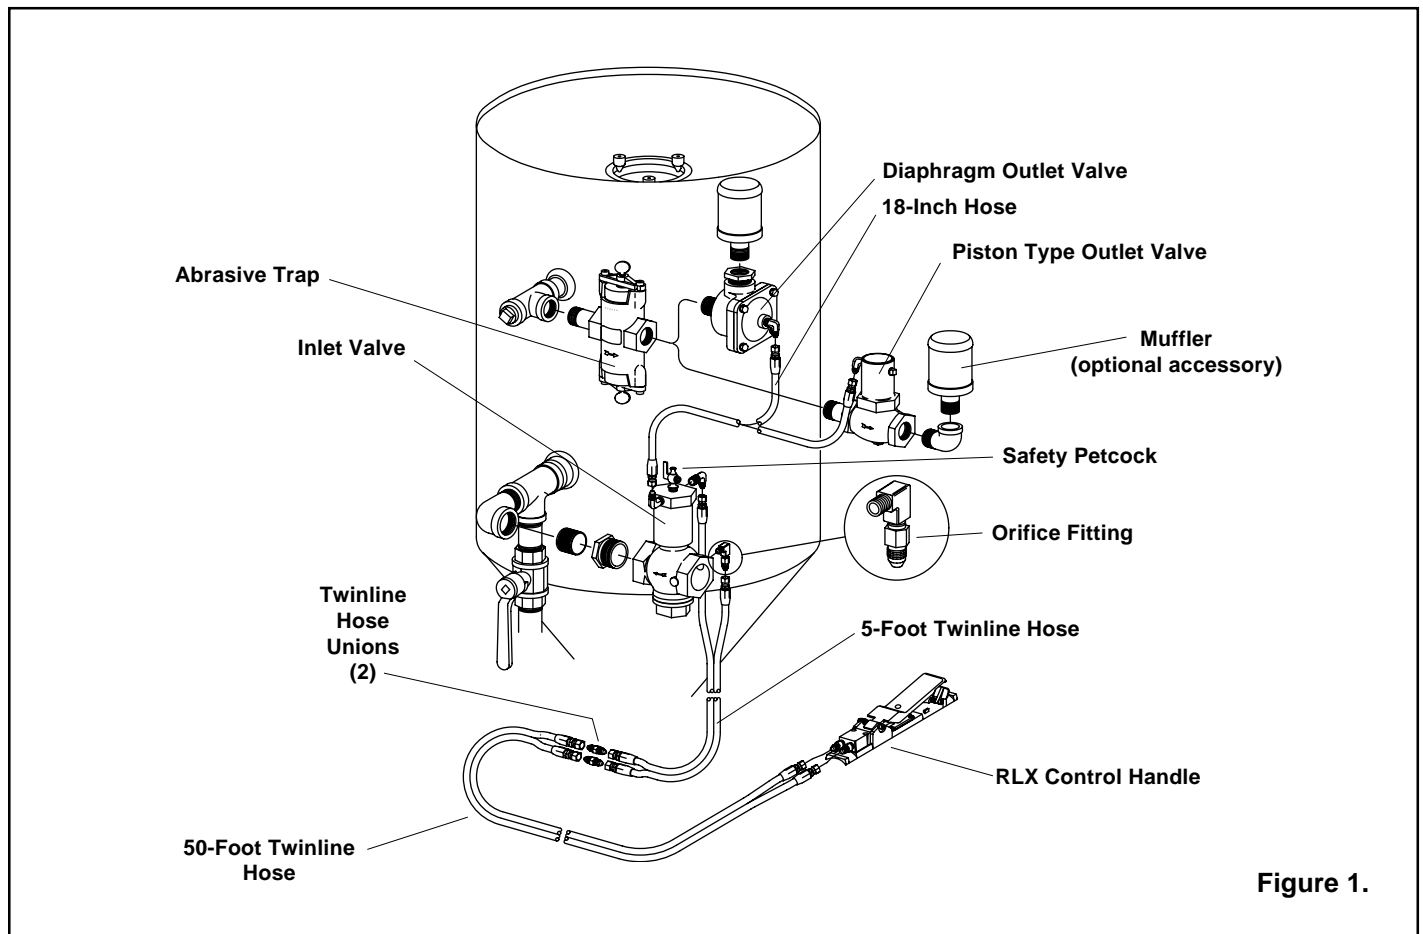

Figure 1.
**1.3.2** The components of a standard system are shown in Figure 1. They include the inlet valve, piston or diaphragm outlet valve (the piston valve is used in most applications, the diaphragm valve is recommended for use with fine mesh, or aggressive media), RLX Control Handle, 50-ft. long and 5-ft. long twinline control hoses, 2 control hose unions, and an 18-in. long interconnecting hose.
**1.4.1** Clemco Recova Remote Controls operate pneumatically on return air (See Figure 1). If the control handle lever (the main activator of the system) is in the up (no blast) position, one stream of air travels down the outbound side of the twinline and escapes through an opening located under the lever. The normally-closed inlet valve remains closed, and the normally-open outlet valve remains open. When the control handle lever is pressed, the opening is sealed, and air in the outbound line returns through the inbound line to open the inlet valve and close the outlet valve. This action pressurizes the blast machine and begins the blasting process. Releasing the handle exhausts the control air, which closes the inlet valve, and
## 2.2 Field Installation: Refer to Figure 1.
**2.2.3** Install the abrasive trap on the blast machine as shown in Figure 1. The air flow directional arrow points away from the machine, with the screen end up and clean-out down.
**2.2.4.1** Piston outlet valves must have the directional arrow pointing away from the abrasive trap. Attach an elbow and optional muffler. The muffler must face up as shown in Figure 1.
Clemco supplies an exhaust muffler with all blast machines of 2 cu. ft. capacity and larger. The muffler reduces exhaust noise and prevents abrasive from exhausting upward or sideways into the air. When the blast machine is depressurized, the muffler body will pop up to diffuse the air and abrasive. When the machine is fully depressurized, the muffler body will drop, permitting trapped abrasive to empty. For the muffler to work properly, it must be installed with the body facing up, as shown in Figure 1.
**2.4.7** Attach the 5-ft. twinline control hose to the inlet valve as shown in Figure 1. One side of the hose connects to the unused upper elbow, the other to the orifice fitting.